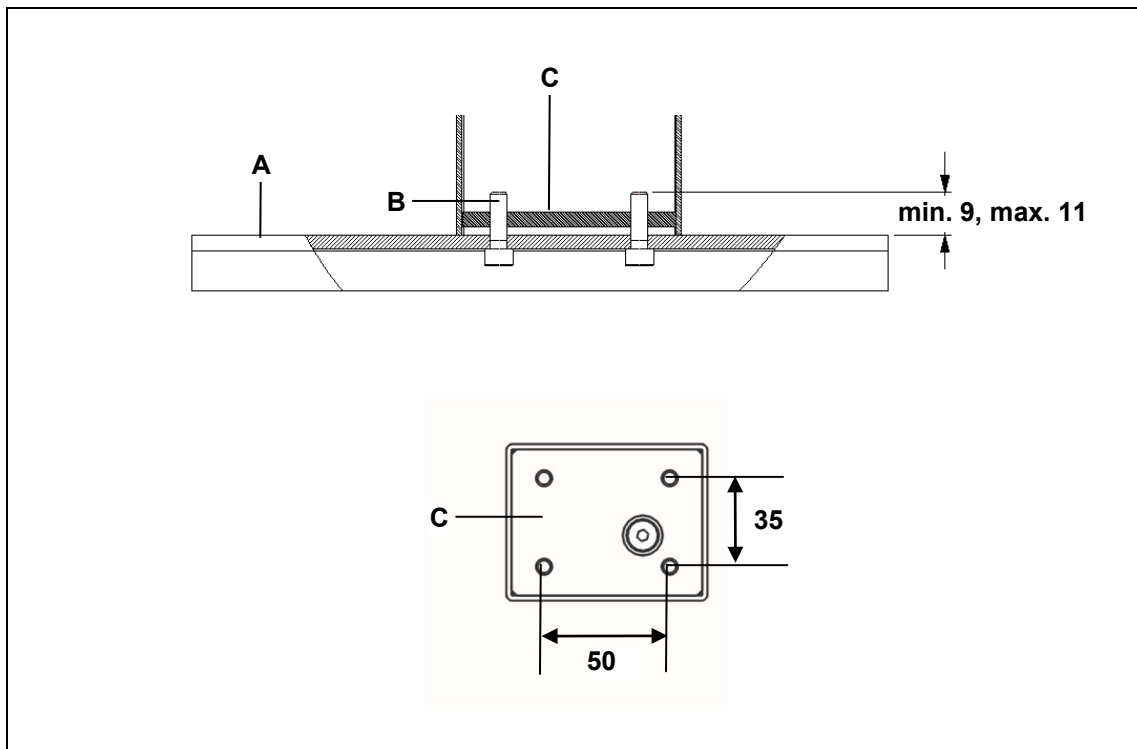
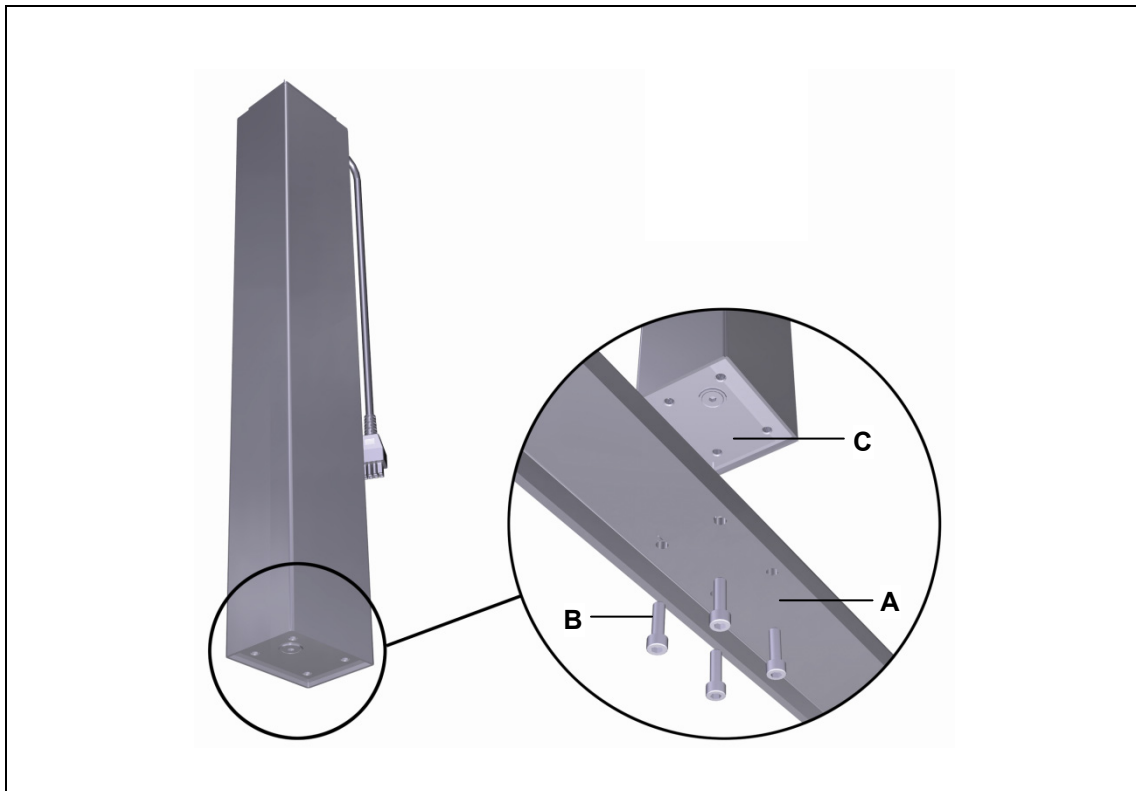

Figure 6 Mounting the table base: (in mm)
Figure 7 Mounting the table base
- Use M6 screws (grade 8.8) of suitable length so that the screw-in depth is between 9 and 11 mm, as shown in Figure 6 (screw length = thickness of the base plate + min. 9 to max. 11 mm). The tightening torque must not exceed 10 Nm.
- 1 Use four screws to attach the table base to the foot end of the ID21 lifting column, as shown in Figure 7 (maximum tightening torque is 10 Nm). The mounting dimensions are shown in Figure 6.